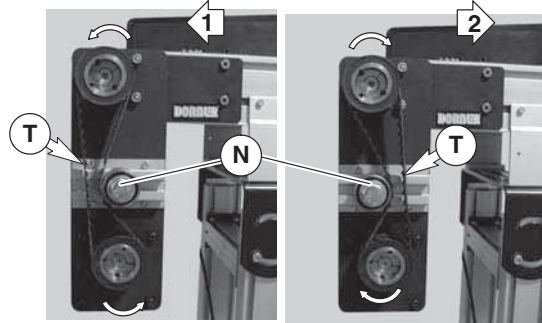

Figure 8
7. Depending on conveyor belt travel (direction 1 or 2), locate timing belt tensioner (Figure 8, item N) as shown. Tension timing belt to obtain 1/8" (3 mm) deflection for 6 lb (3 Kg) of force at timing belt mid-point (T). Tighten tensioner screw to 110 in-lb (12 Nm).
3. Depending on conveyor belt travel (direction 1 or 2), locate timing belt tensioner (Figure 8, item N) as shown. Tension timing belt to obtain 1/8" (3 mm) deflection for 6 lb (3 Kg) of force at timing belt mid-point (T). Tighten tensioner screw to 110 in-lb (12 Nm).
5. Depending on conveyor belt travel (direction 1 or 2), locate timing belt tensioner (Figure 8, item N) as shown. Tension timing belt to obtain 1/8" (3 mm) deflection for 6 lb (3 Kg) of force at timing belt mid-point (T). Tighten tensioner screw to 110 in-lb (12 Nm).